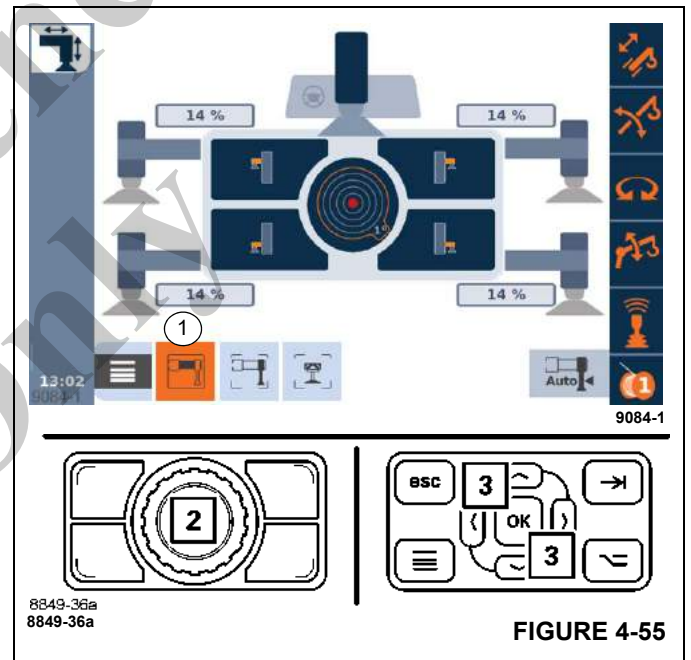

FIGURE 4-55
Depending on the equipment of the truck crane, the outrigger span (Figure 4-55) is shown in meters, feet or percent (%).
- Select and confirm the symbol (1), (Figure 4-55).
- Use the buttons (2) or (3) to select the rigged outrigger span.